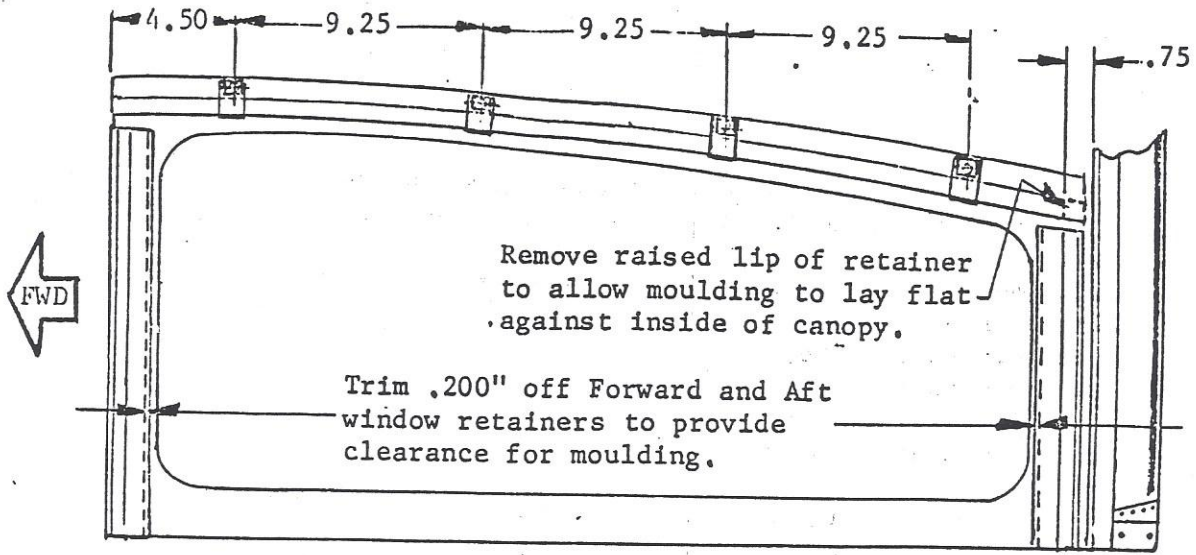

FIGURE 3. CANOPY WINDOW RETAINER TRIMMING
4. Trim .200 off forward and aft window retainer lips and remove 1" from aft end of upper window retainers as shown in Figure 3. This provides proper clearance for the installation of the window mouldings.
1. Install the 5102282-501 clip assemblies on the upper window retainers per the dimensions shown in Figure 3.
3. With moulding in position mark locations of four (4) attaching screw holes that need to be drilled in the moulding above the window. These holes must line up with the four (4) clip assemblies installed in step D-1. Drill four (4) .093" diameter holes in each moulding.
5. Hold the window moulding "out" tight against the canopy at each rivet location along the rear canopy bow and drill the five (5) .136" diameter attachment holes in the moulding on each side to match the canopy bow holes. Drill and rivet one hole at a time.